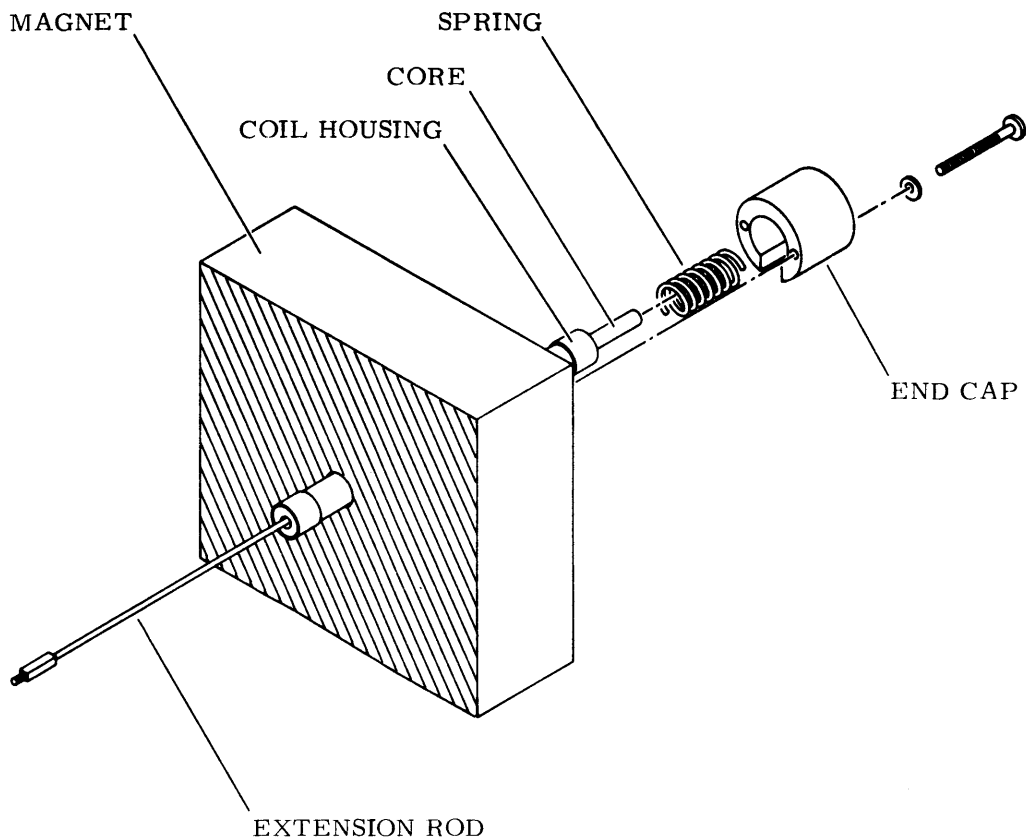

Figure 6-5. Velocity Transducer Replacement
28. Replace velocity transducer assembly (refer to figure 6-5) as follows: